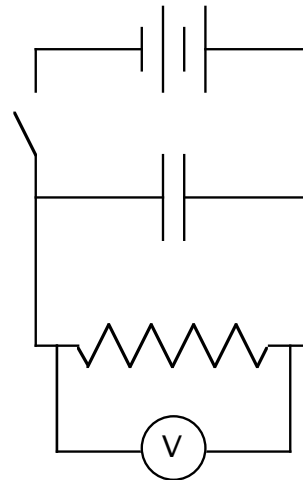

Figure 21-1
1. Construct the circuit that appears in figure 21-1 using the 680K Ω resistor. **Note: The capacitors are electrolytic. They must be placed in the circuit with the negative side of the capacitor on the negative side (black pole) of the power supply)**